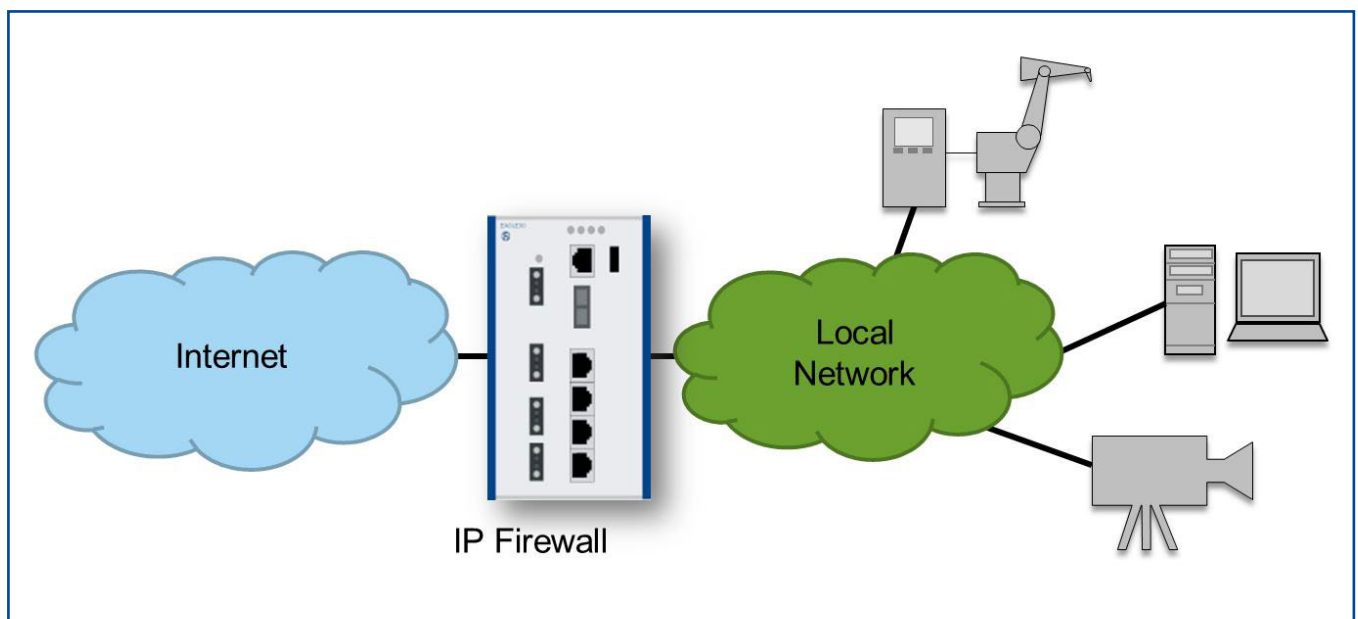

Fig. 1: Firewall between the Internet and the local company network
Internet), the firewall must possess full capabilities for packet filtering and filtering traffic between various networks (see figure 1). Such a firewall is called an IP firewall since it processes Internet Protocol (IP) traffic. Because these firewalls are often installed very near the actual facility, industrial hardening must also be taken into consideration. Extended temperature ranges and/or approval for use in special areas (e.g. energy supply, hazardous location and transportation) are crucial.